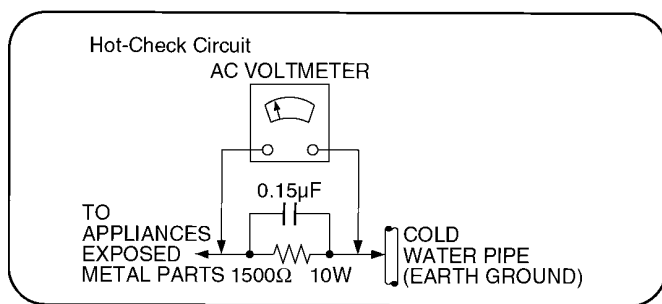

Figure 1
2.1.2. Leakage Current Hot Check (See Figure 1.)
2. Connect a $1.5k\Omega$, 10 watts resistor, in parallel with a $0.15\mu F$ capacitors, between each exposed metallic part on the set and a good earth ground such as a water pipe, as shown in Figure 1.